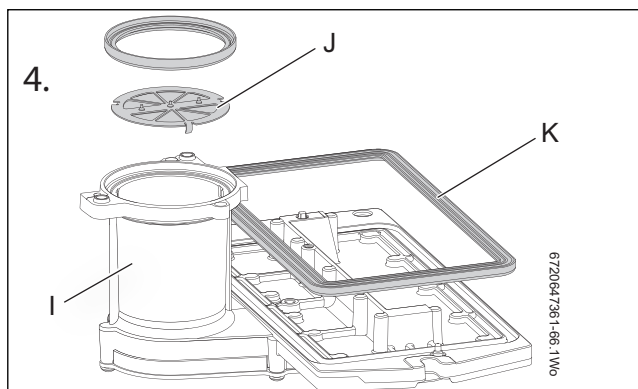

Fig. 80 Diaphragm
- ▶ Remove the burner (H).
- ▶ Ensure that a new seal (K) is used, refer to fig. 80.